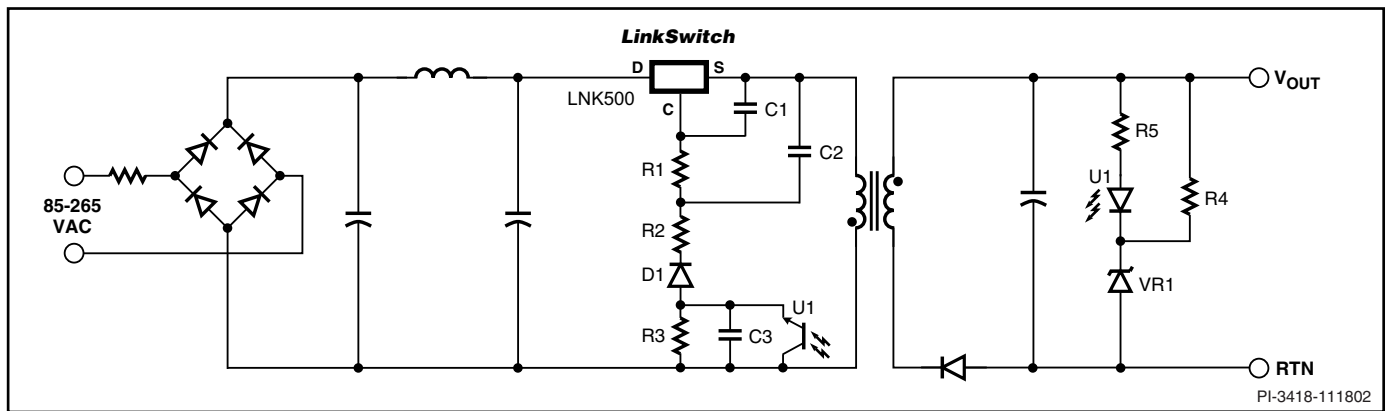

Figure 6. Power Supply Outline Schematic with Optocoupler Feedback.
Figure 6 shows a typical power supply outline schematic using *LinkSwitch* with optocoupler feedback to improve output voltage regulation. On the primary side, the schematic differs from
The feedback configuration in Figure 6 is simply a resistive divider made up of R1 and R3 with D1, R2, C1 and C2 rectifying, filtering and smoothing the primary winding voltage signal. The optocoupler therefore effectively adjusts the resistor divider ratio to control the DC voltage across R1 and therefore, the feedback current received by the *LinkSwitch* CONTROL pin.
When the power supply operates in the constant current (CC) region, for example when charging a battery, the output voltage is below the voltage feedback threshold defined by U1 and VR1 and the optocoupler is fully off. In this region, the circuit behaves exactly as previously described with reference to Figure 5 where the reflected voltage increases with increasing output voltage and the *LinkSwitch* internal current limit is adjusted to provide an approximate CC output characteristic. Note that for similar output characteristics in the CC region, the value of R1 in Figure 5 will be equal to the value of R1+R3 in Figure 6.
transistor voltage and dissipation ratings and should be fully tested before finalizing a design. The values of C2 and C3 are less important other than to make sure they are large enough to have very little influence on the impedance of the voltage division circuit set up by R1, R3 and U1 at the switching frequency. Normally, the values of C2 and C3 in Figure 6 are chosen equal to the value of C2 in Figure 5, though the voltage rating may be reduced depending on the relative values of R1 and R2 discussed above. See Applications section for typical values of components.
The output voltage load variation can be improved across the whole load range by adding an optocoupler and secondary reference (Figure 6). The secondary reference is designed to only provide feedback above the normal peak power point voltage to maintain the correct constant current characteristic.